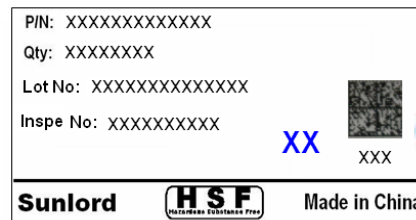

Fig.9.2.3-2B
2) Marking on outer case (refer to **Fig.9.2.3-3~5**):